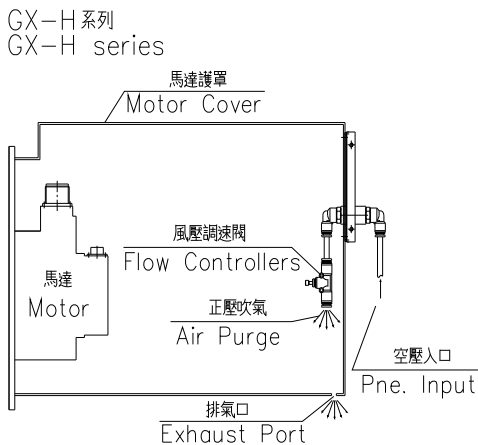

Fig 6-1
- (8). Supply compressed air to bring up barotropic fluid inside of motor cover. Tighten the pneumatic adjustable valve by clockwise and then lose this valve by 1/4~1/2 round to release the air (till sound of spout appears and air eject from nozzle). The positive air pressure stays to avoid any humidity accumulated in the cover and prevent damage and corrosion of internal electrical components. (see Fig 6-1)
- (9).Set up rotary table parameters.(see Parameter Sheet of package)
- (10). Trial run.
- (11).Set the grid shift amount for machine zero-return.(see Page 8-2)